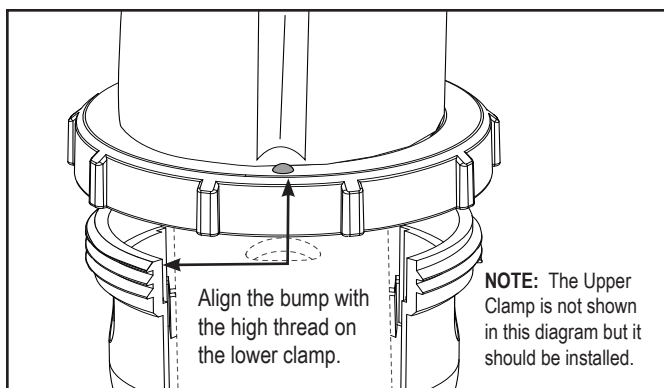

Figure 3. Locking Ring Alignment
7. Position the locking ring in proper alignment, making sure the bump aligns with the top thread (see Figure 3).